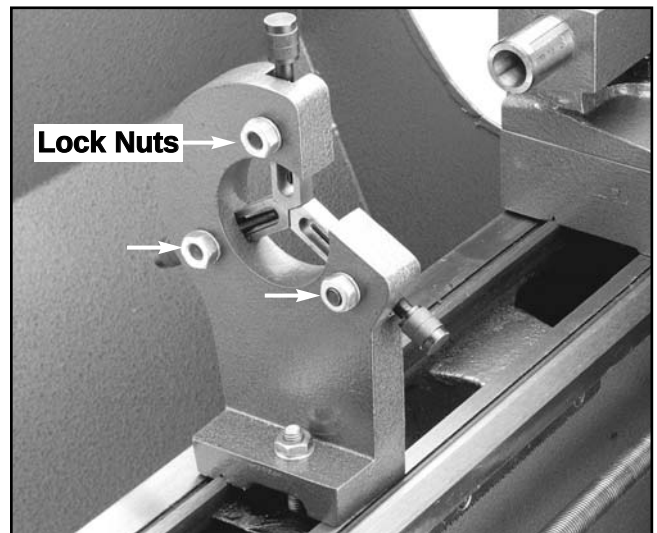

Figure 26. Steady rest lock nuts.
1. Loosen the lock nuts. **Figure 26.**